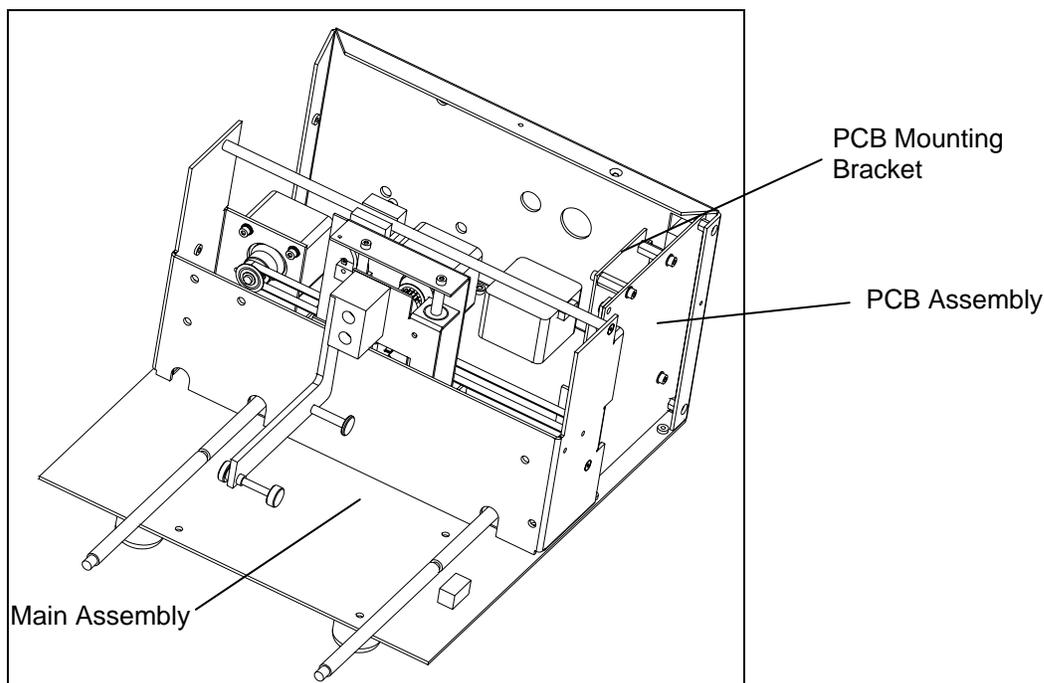

Figure 13-12 Printed Circuit Board and PCB Bracket
- 1 Remove the two screws and Nylon washers that secure the assembly to the PCB mounting bracket (Figure 13-12)